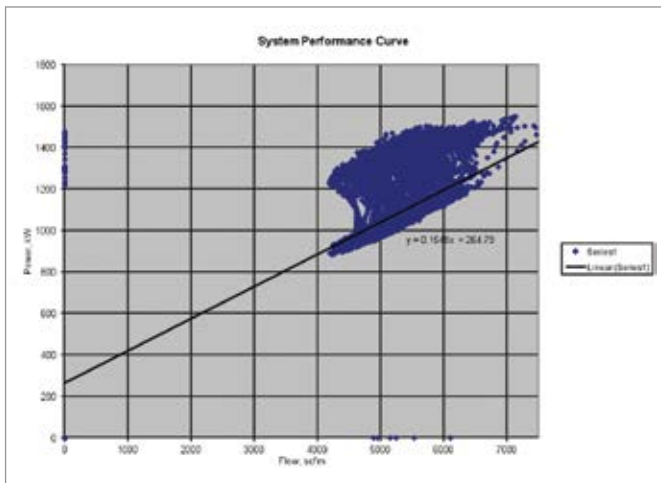

Figure 3: System Efficiency Curve
- System efficiency curve — power versus flow: This shows the “turn-down” of the system. Does it shave power as flow reduces? (See Figure 3 on pg. 17)